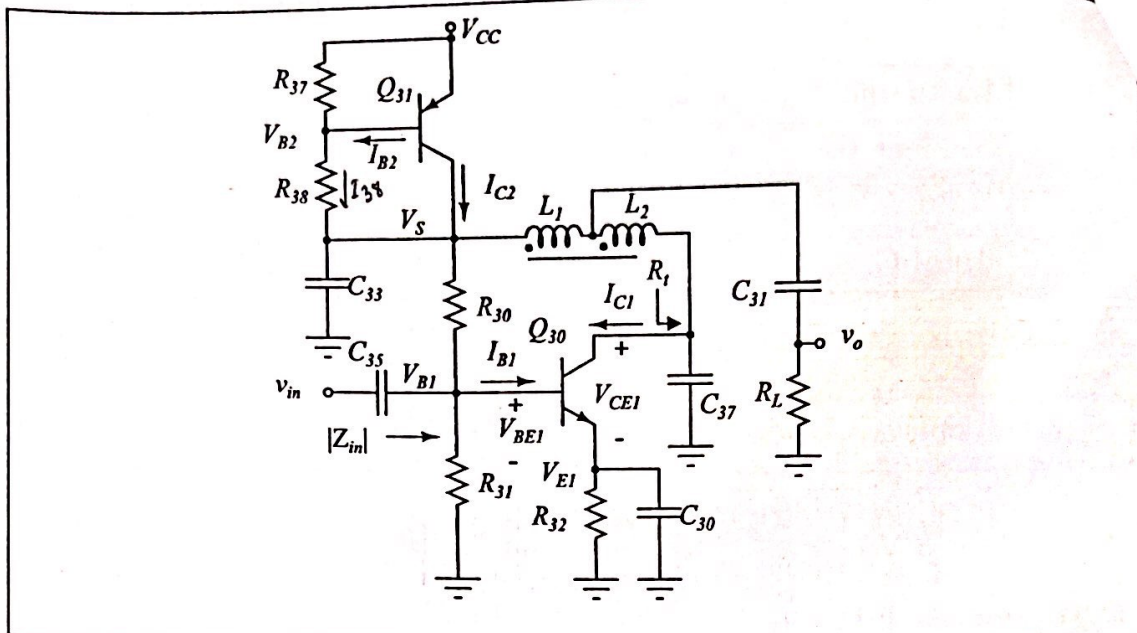

Figure 1: Schematic of transmitter amplifier.
1. A tuned RF amplifier that acts as the transmitter amplifier of TRC-11 can be built using a BJT, Q30. BJT to be used is a more powerful NPN transistor, 2N2222. Inspect the datasheet given in 368. It can handle currents up to 600 mA and voltages up to 40 V. It can dissipate up to 625 mW power at room temperature. These values are considerably high compared to KSP10 used earlier. Refer to the circuit given in Fig. 1. It is a Class-A power amplifier intended to drive an antenna. R_L is the load to be driven (it is actually the real part of the antenna impedance to be discovered later). The power delivered to R_L is the transmitted RF power into the air when the antenna is used. Actually, the output power is intentionally kept low, not to violate local RF transmission limits in this frequency band. C_{31} is a DC block capacitor. L_1 , L_2 and C_{37} form an impedance transformation network, that transforms R_L into an optimal impedance for the transistor.